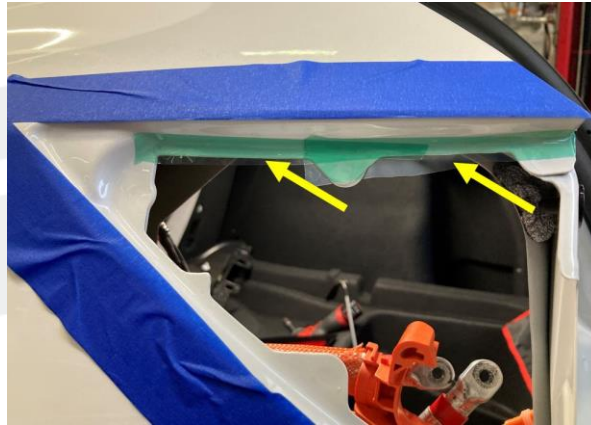

Figure 5
2. Apply protective tape to the upper edge of the LH rear quarter panel where the charge port door is mounted to the vehicle (Figure 5).
3. Move the busbar aside and temporarily install the charge port to the vehicle, and then install the bolts (x3, 10mm, Torque 5.5 Nm) that attach the charge port to the body (Figures 5 and 6).
- Move the busbar aside and temporarily install the charge port to the vehicle, and then install the bolts (x3, 10mm, Torque 5.5 Nm) that attach the charge port to the body (Figures 5 and 6).